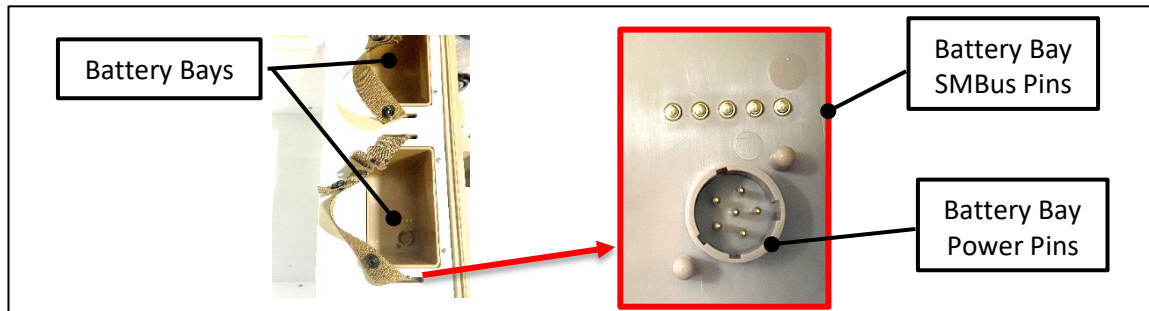

Figure 25: Inspect xFridge Battery Terminals
- There are two (2) Battery Bays with receptacles in the xFridge as shown in Figure 25.
- The integrity of the Battery Bay receptacles and pins should be examined for corrosion or damage. A photograph of receptacle and SMBus pins are shown in Figure 25.